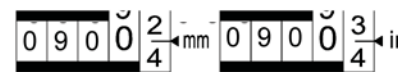
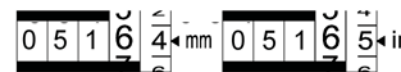

Fig. 4.7
Fig. 4.8
b) The reading in Fig. 4.7 is 0.9003"or 9.003mm and the reading is 0.5165"or 5.164mm in fig. 4.8.